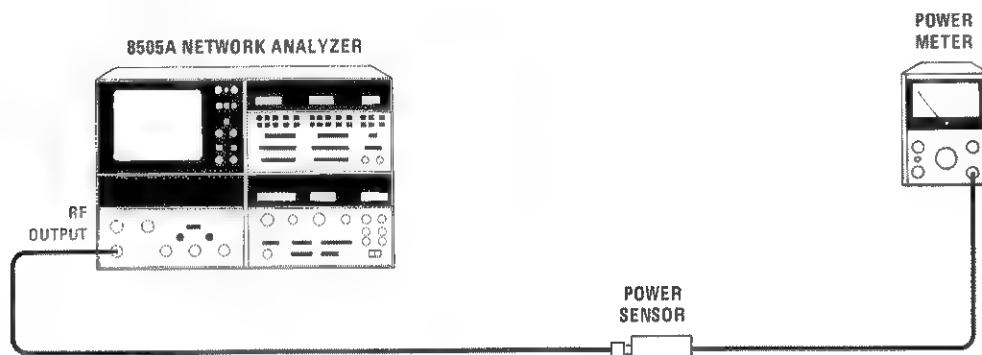

Figure A2-14. Power Output Range Test Setup
- b. Connect equipment as shown in Figure A2-14 and set Power Meter range to +15 dBm.